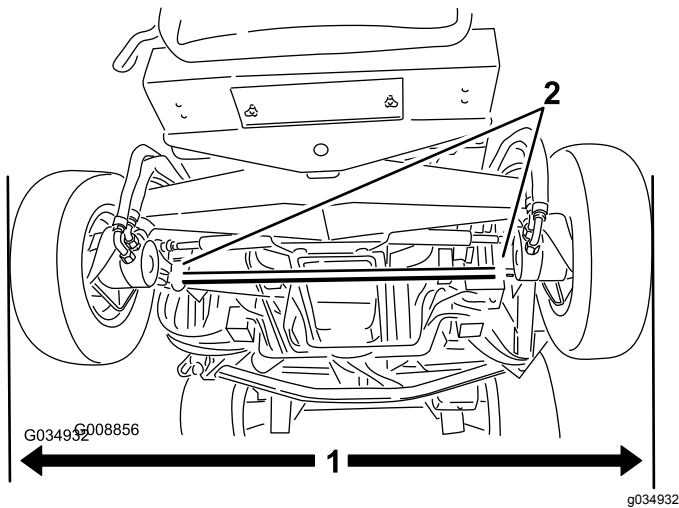

Figure 112
1. With the rear tires in a straight position, measure the outside distance (at axle height) at the front and rear of the rear tires (Figure 112).
2. To adjust the toe-in, loosen the clamps at both ends of the tie rods (Figure 112).